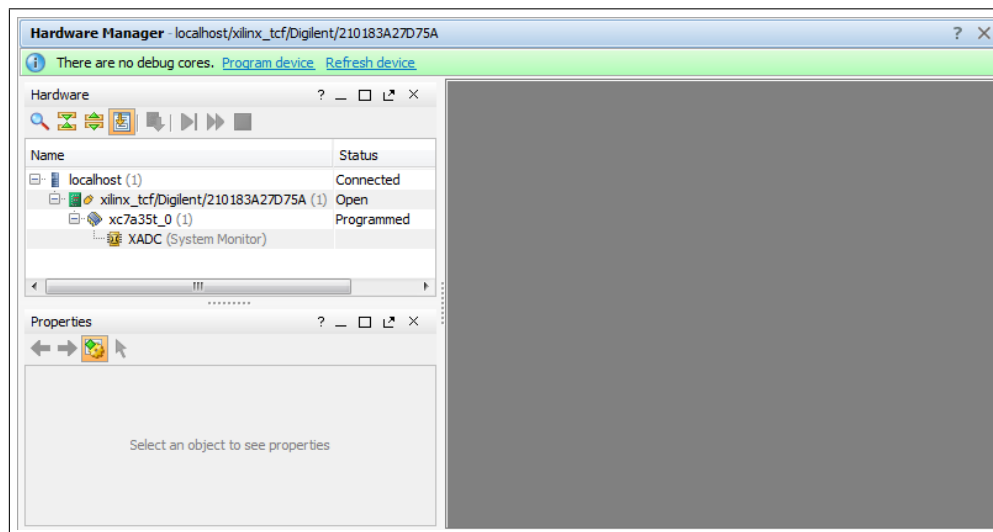

Figure 5.13: Hardware Manager Window
1. Under “Hardware Manager” in the “Program and Debug” section of the “Flow Navigator”, select “Open Target” then “Auto-Connect”. Now the Hardware Manager should open with a “xc7a35t” device listed, as seen in Figure 5.13.